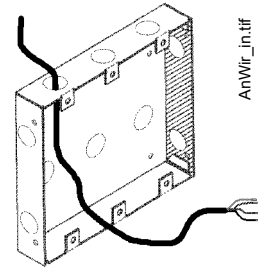

Figure 5.1 Pull Wiring into Enclosure
2. Pull wiring into backbox (Figure 5.1).
Select an appropriate knockout on the enclosure for your wiring to run through and snap it out. Fasten the cabinet or backbox to the wall. Ground the enclosure to a solid metallic ground, such as a grounded cold water pipe. Pull all LCD-160 wiring into the enclosure as illustrated in Figure 5.1. Connect LCD-160 wiring to the removable terminal blocks as specified in “Connecting the RDP Bus” on page 18.